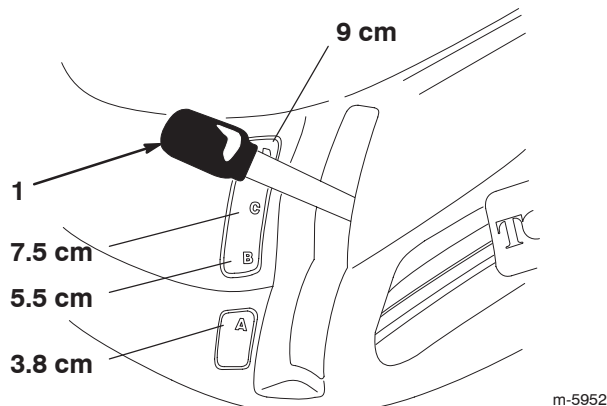

Figure 5
2. Pull on the height-of-cut lever, move it to the desired position, and release it slowly into the notch (Fig. 5).